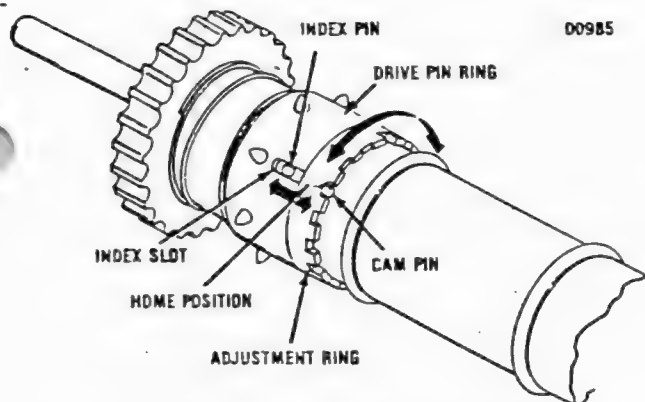

Figure 2-4 Paper Drive Roller Adjustment
3. If paper holes do not line up with pins on paper drive roller, refer to Figure 2-4 and adjust per steps 4, 5 and 6. If lineup is satisfactory, go to step 7.
The cam slot with the shaded area in Figure 2-4 is the "HOME" position (228.6 mm or 9" for the short version; 238.6 mm or 9.4" for the long version). The printer is shipped with the roller pins in the "HOME" position. While adjustment is being made, Index Pin MUST stay in Index Slot. Also, make certain that Cam Pin falls securely into Cam Slot.